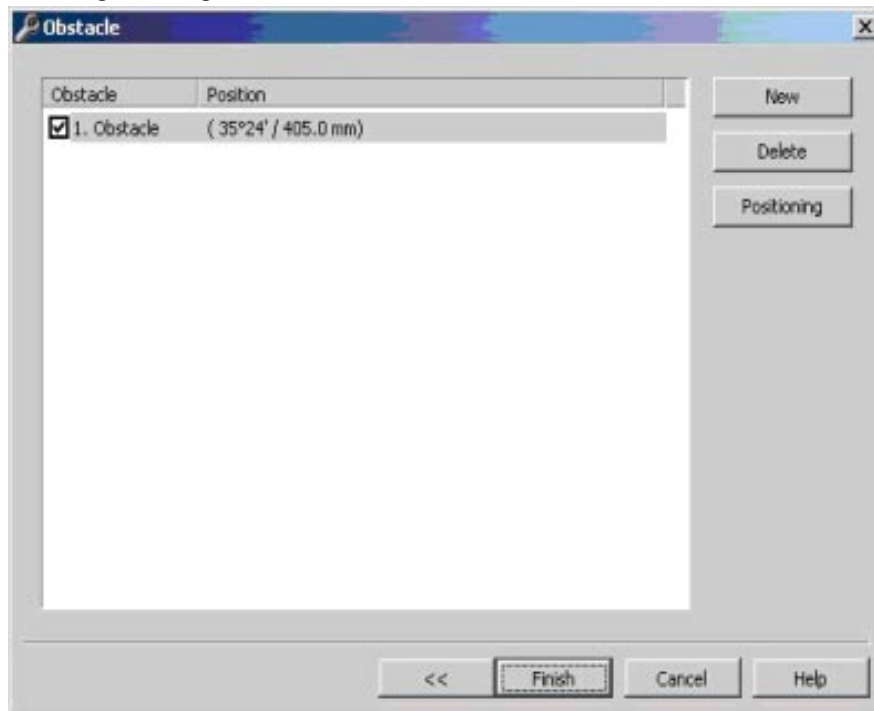

Figure 36
a. Select "Positioning" see Figure 36.